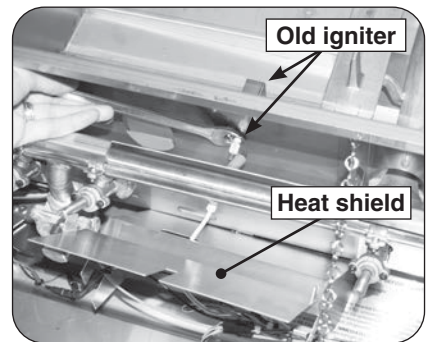

Fig. 2-4 Remove heat shield and old igniter
9. Lift the heat shield up and inward slightly to clear the diagonal slots hooked over the oven fire wall then pull away from the manifold (see Fig. 2-4).
10. Remove the existing igniter wire by first sliding the rubber sleeve back off the igniter, then pulling the wire to detach from the igniter. Next remove the igniter nut on the control panel side of the fire wall with a  $\frac{9}{16}$  open-end wrench (see Fig. 2-4) and remove the igniter box from inside the oven. Remove the rubber sleeve from the wire and pull the wire through the heat shield and the insulating tube in the manifold fire wall. Disconnect the other end of the igniter